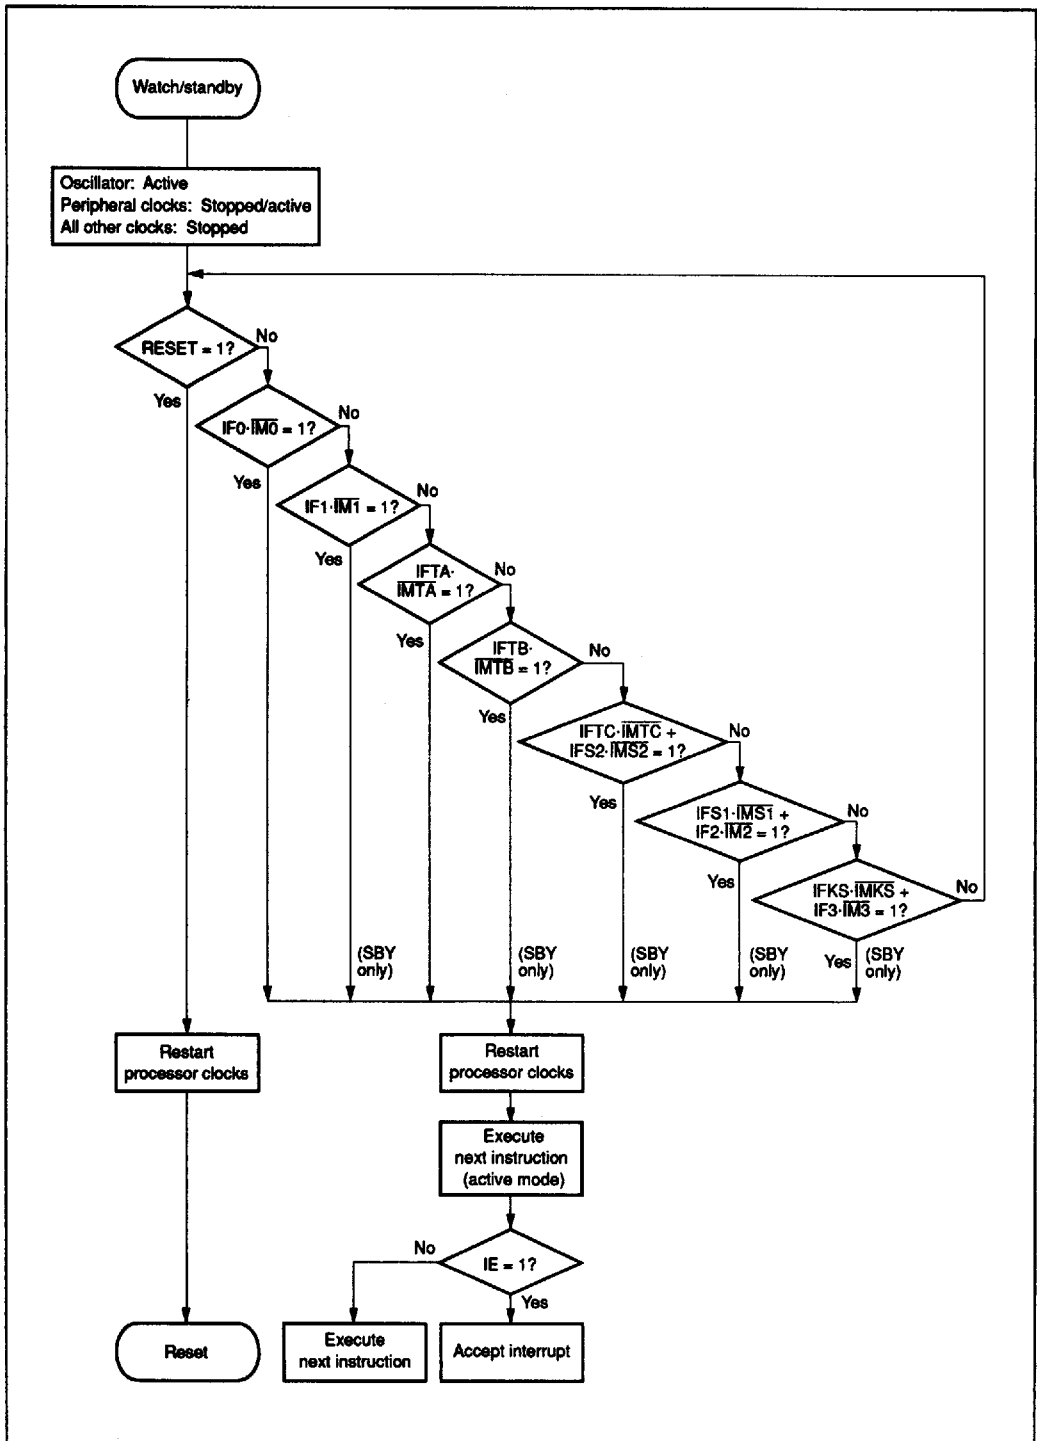
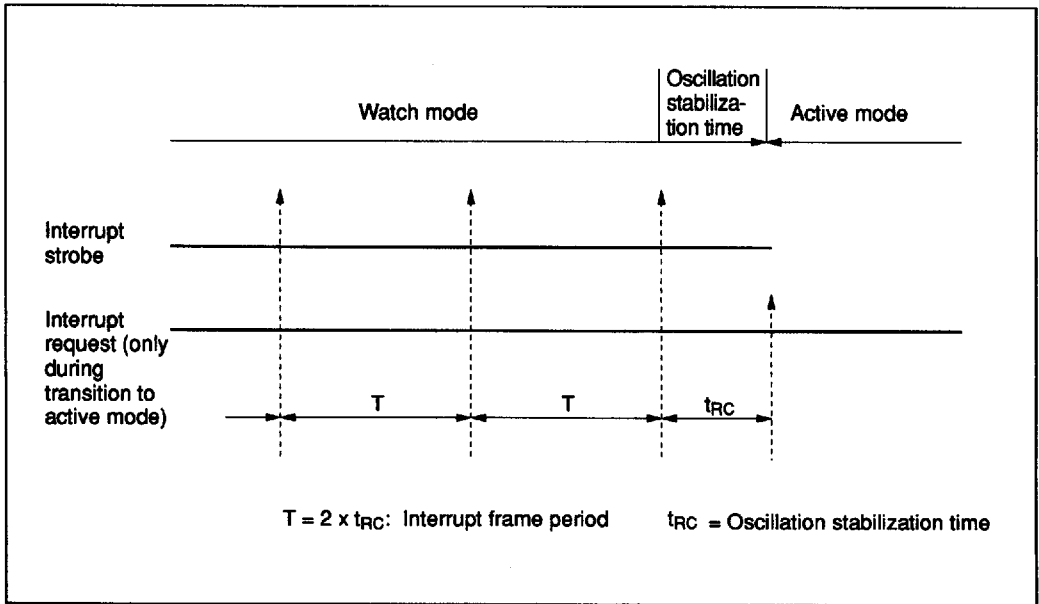

Figure 15 Flowchart of Watch and Standby Modes
Figure 17 Interrupt Frame
Standby mode may be cancelled by inputting RESET or by asserting an interrupt request. In the former case the MCU is reset. In the latter case, the MCU becomes active and executes the next instruction following the SBY instruction. If the interrupt enable flag is 1 when an interrupt request is asserted, the interrupt is executed, while if it is 0, the interrupt request is put on hold and normal instruction execution continues. A flowchart of operation in standby mode is shown in figure 15.
The watch mode is terminated by a RESET input or a timer-A/ $\overline{INT}_0$  interrupt request. For details of RESET input, refer to the Stop Mode section. When terminated by a timer-A/ $\overline{INT}_0$  interrupt request, the MCU enters active mode if LSON is 0 or subactive mode if LSON is 1. Any interrupt request generated for the transition to active mode is delayed for half the interrupt frame period ( $t_{RC}$ ) to give the oscillation time to stabilize (figure 17). Operation during mode transition is the same as that at standby mode cancellation (figure 15).
**Interrupt Frame:** In watch and subactive modes,  $\phi_{CLK}$  is supplied for timer A and the  $\overline{INT}_0$  circuit. Prescaler W and timer A operate as time bases to generate interrupt frame timing. Three interrupt frame cycles (T) can be selected by the settings of miscellaneous register 1, as shown in figures 17 and 18.